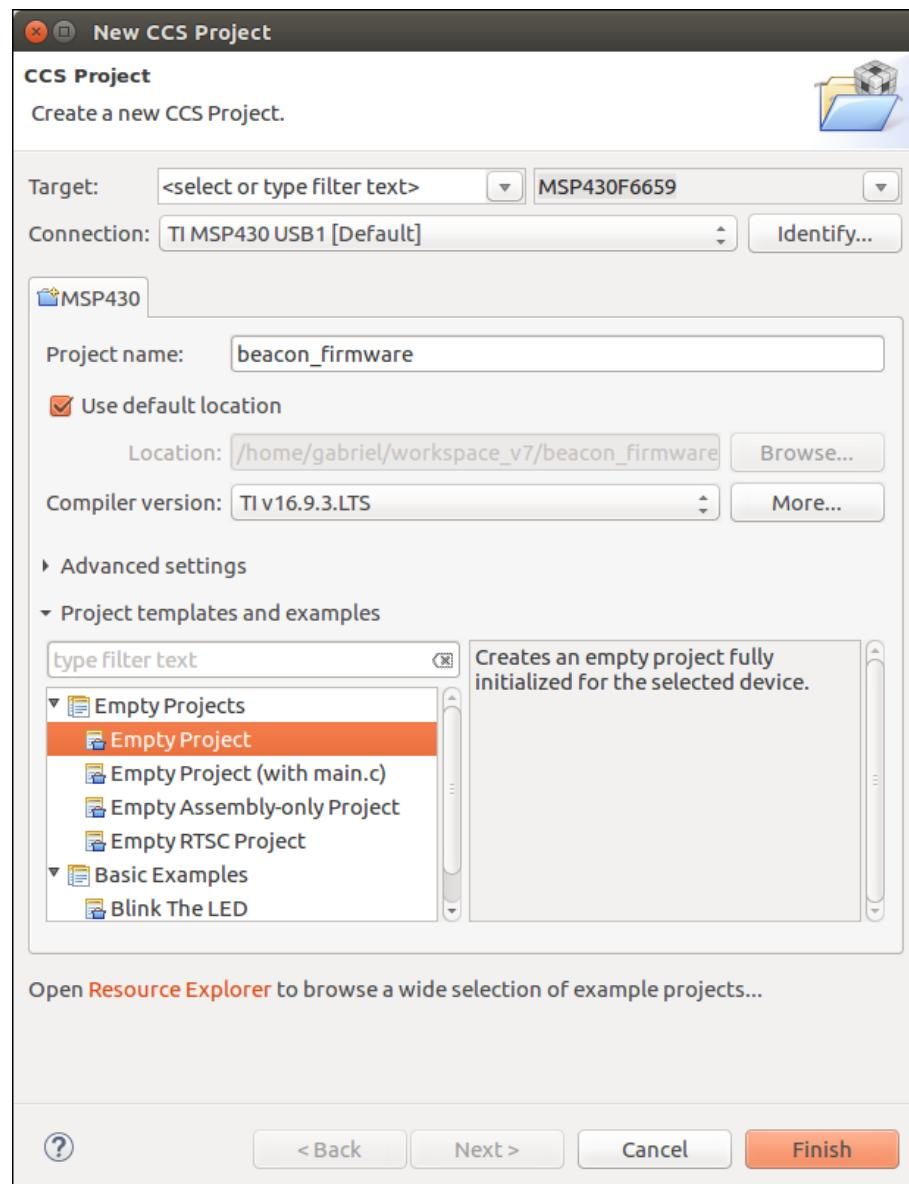

Figure 5.15: New CCS project window.
2. The window from the figure 5.15 will appear on the screen.